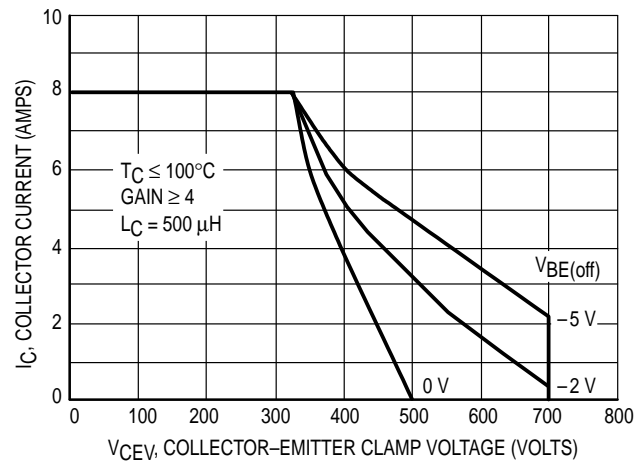

Figure 7. Maximum Reverse Bias Switching Safe Operating Area
Use of reverse biased safe operating area data (Figure 7) is discussed in the applications information section.
For inductive loads, high voltage and current must be sustained simultaneously during turn-off, in most cases, with the base to emitter junction reverse biased. Under these conditions the collector voltage must be held to a safe level at or below a specific value of collector current. This can be accomplished by several means such as active clamping, RC snubbing, load line shaping, etc. The safe level for these devices is specified as a Reverse Bias Safe Operating Area (Figure 7) which represents voltage-current conditions that can be sustained during reverse biased turn-off. This rating is verified under clamped conditions so that the device is never subjected to an avalanche mode.
- (3) The base drive conditions are within the specified limits shown on the Reverse Bias SOA curve (Figure 7).